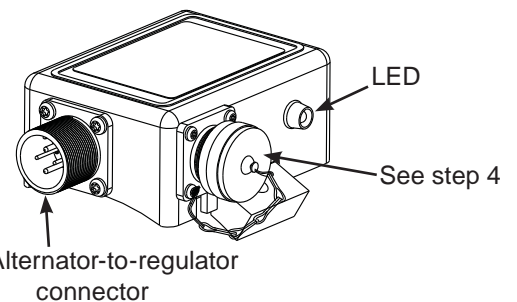

Figure 2 – A2-349 Alternator-mounted Regulator
2. Mount A2-349 curved-base regulator on alternator in the same position as the previous regulator. Use screws and washers (if supplied). Torque regulator mounting screws to 8.5 Nm/ 75 lb. in. See Figure 2.
4. See Figure 2:
- a. A9-4050 harness has two additional wire connections for regulators requiring external ignition feed or D+ voltage sense/reference signal. See Figure 2.